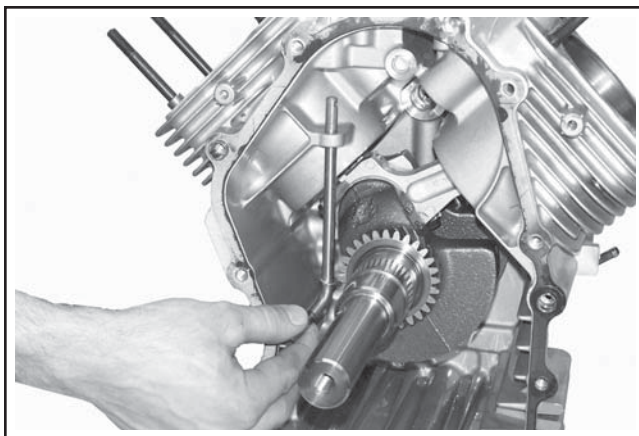

Figure 8-65. Removing Governor Cross Shaft.
2. Remove the cross shaft through the inside of the crankcase. See Figure 8-65.